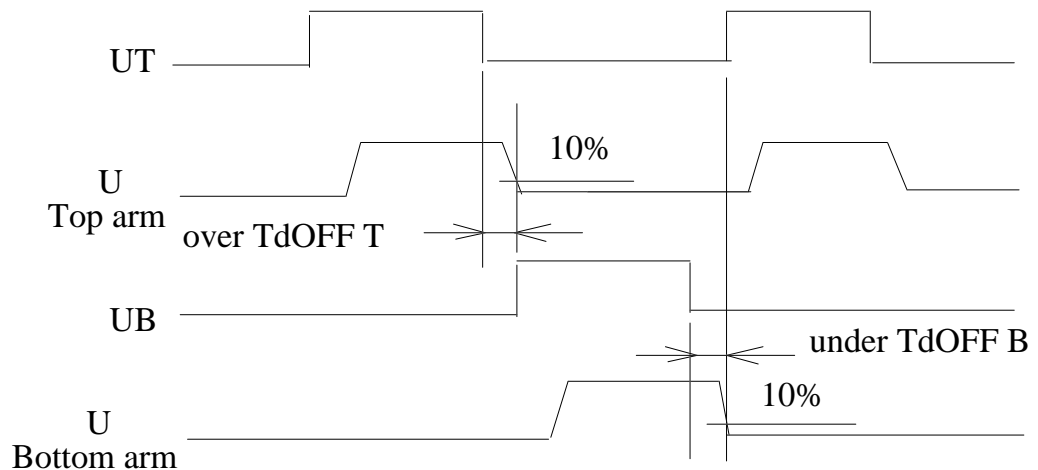

Fig 3. Example of the dead time
- In this IC, 6 IGBTs can be operated independently. The output device has a totem pole structure of IGBTs. When the top IGBT and the bottom IGBT in the same phase are turned on simultaneously, the IC can be broken. Therefore, when the output control is moved from turn-off of the top(bottom) IGBT to turn-on of the bottom(top) IGBT in the same phase, a dead time should be set up to avoid the simultaneous turn-on. Fig. 3 shows an example for the dead time.